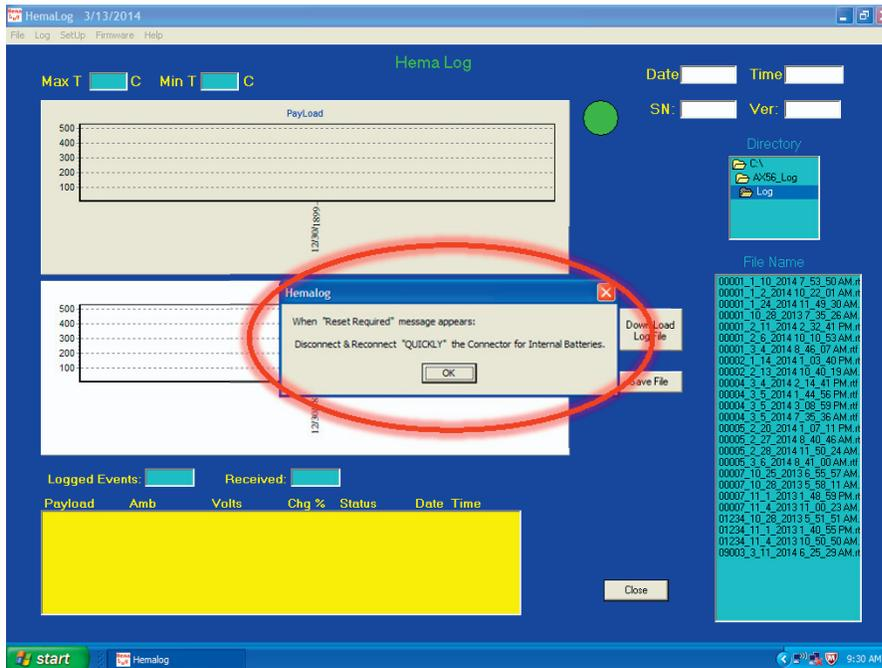

Figure 55. Acknowledge Reset Required
5. A reset is required for a firmware update. Attach a connector for batteries. Acknowledge by pressing the **OK** button to continue (Figure 55).